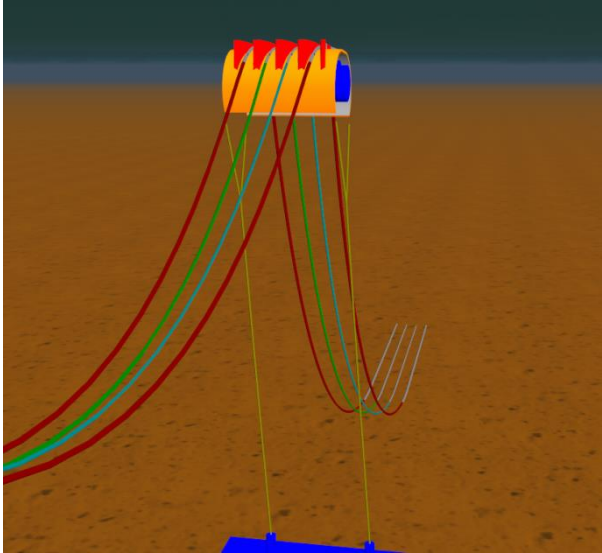

Figure 2-1: Mid Water Arch Model
- Mid-water arch models - see Figure 2-1. Elastic Solids are used to model the contact surface of the arch body, as well as the guttering within which the risers or umbilicals lie.